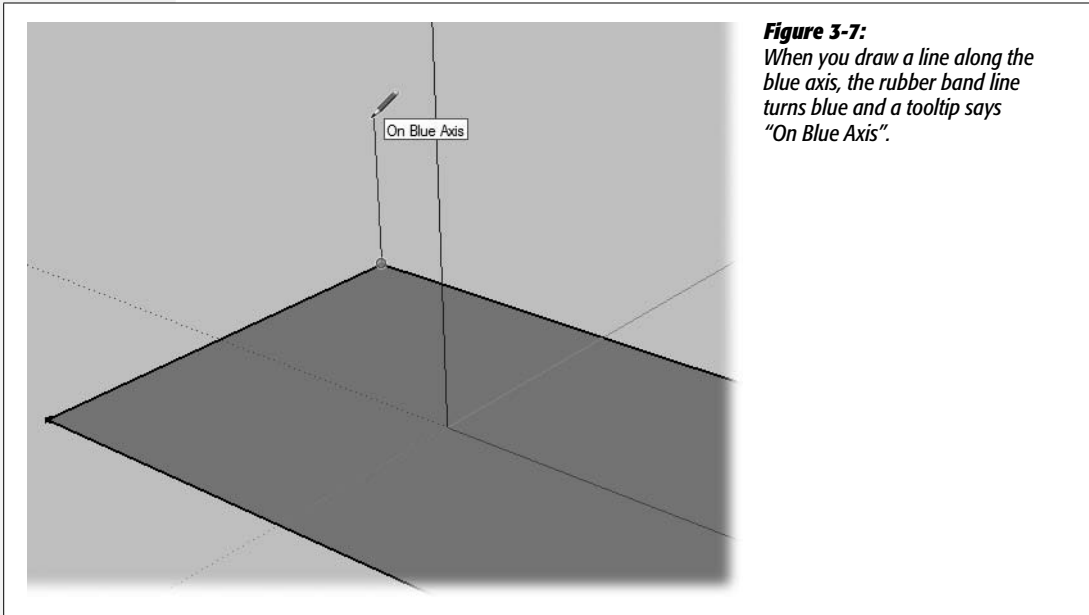

Figure 3-7:
3. Use the Orbit tool to move to a three-dimensional view of the rectangle with the blue axis pointing up and down in the drawing area, and the red and green axes pointing to the right, as shown in Figure 3-7.
4. With the Line (L) tool, click the topmost point in the rectangle, and then draw a new line along the blue axis.
As you draw with the Line (L) tool, from the endpoint adjust the angle until your line turns blue and you see a tooltip that says "On Blue Axis", as shown in Figure 3-7. Hold down the Shift key to lock the line to the blue axis. When your line is on the blue axis, it's perpendicular to the rectangle's surface. Don't press Esc, because the next line is drawn from this endpoint.